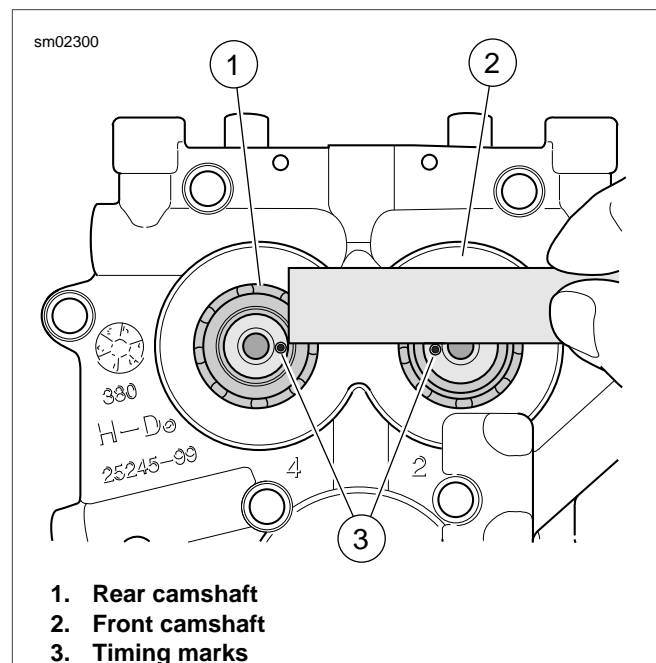

Figure 3-111. Verify Alignment of Timing Marks
- Place small guide (2) on rear camshaft (1). Place large guide (4) on front camshaft (3).
- See Figure 3-111. Using a straightedge, verify that the timing marks are in alignment. If they are not, then the camshafts must be removed, realigned and reinstalled.